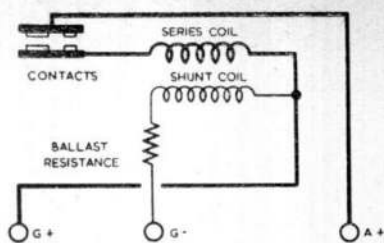

Fig. 2. Wiring diagram—cut-out, Type C
4. This cut-out is an electro-magnetic switch with two windings on the operating magnet, a voltage winding and a current winding. The voltage, or shunt, winding is connected, in series with a resistance, across the generator main output leads. The current, or series, winding is connected in series with the generator. The arrangement is illustrated in fig. 2 and 3.